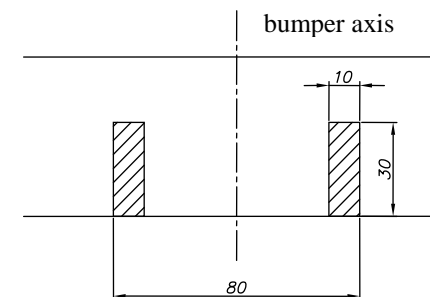

Fig. 2 Cut area
4. In the place previously metal strengthener, put the elements (pos. 5 and 6) and twist with bolts $M8 \times 35$ mm (pos. 15) from the front, and form under of this, with bolts $M10 \times 35$ mm (pos. 14) - loosely.
5. For this way prepared elements, put the main bar of the towbar (pos. 1) and twist with bolts $M12 \times 35$ mm (pos. 13).
6. To elements (pos. 5 and 6) through the holes (pos. A) fix the brackets (pos. 7 and 8) with bolts $M12 \times 35$ mm (pos. 13) and previously put bolts $M10 \times 110$ mm (pos. 12) and twist with chassis member.
8. Mount the bumper after previous cut a fragment, how is showed on fig. 2.
9. Fix body of the automat and place tow-ball according to supplied instruction. Note! Remember to place socket plate (pos. 3) as shown on the drawing 1.